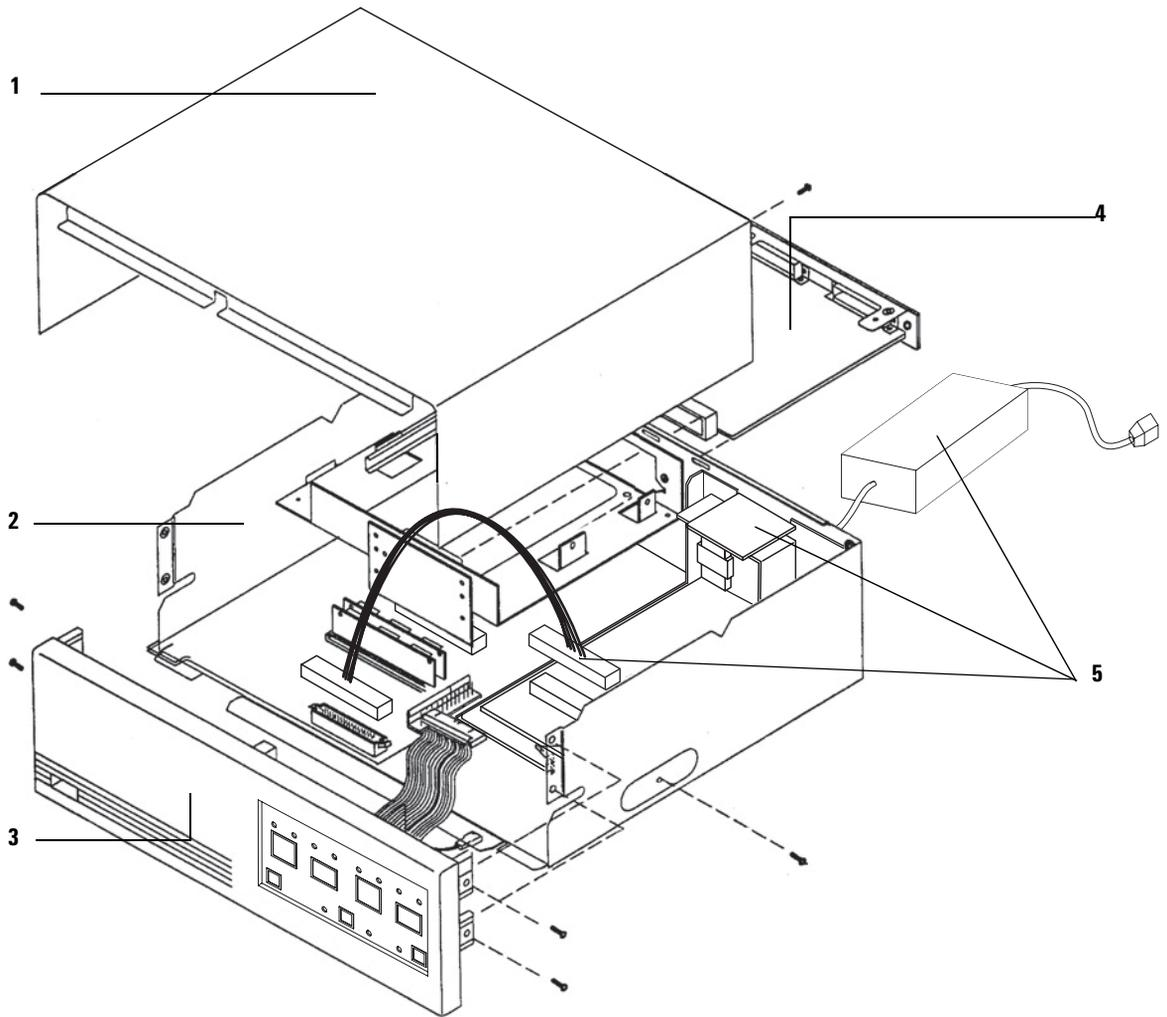

Figure 15 Parts breakdown
- 3 Remove the three screws attaching the MIO bracket to the frame. (See Figure 15 on page 51.)
- 3 Remove the two screws attaching the connector board to the plate. The board will separate from the plate. (Figure 15 on page 51.)
- 5 Remove the two screws attaching the mother board to the back of the unit. (Figure 15.)
- 6 Slide the mother board out the front of the unit. (Figure 15.)
- 5 Slide the old power supply towards the front of the chassis, then remove it. See Figure 15 on page 51.
Table 12 Under the 35900 top cover (Figure 15)
Table 13 Parts for 35900 mother board (Figure 15)